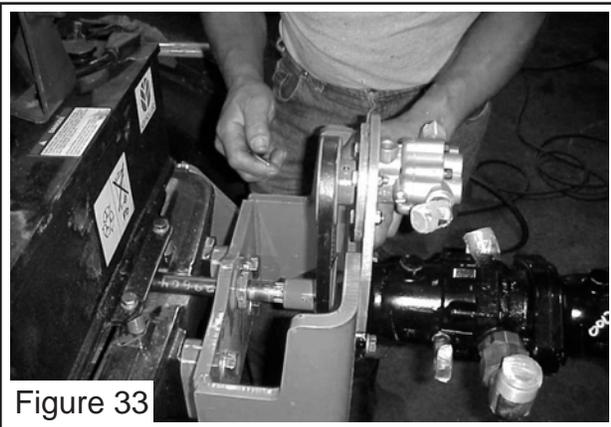

Figure 33
4. Align auxiliary pump drive pulley. With the auxiliary pump mount plate firmly tightened and the drive belt on the pulley, but not adjusted tight. Slide the pump drive pulley on the pump shaft until the upper pulley is aligned with the lower one. Once the pulleys are aligned tighten the retaining set screw in the upper pulley to secure it to the pump shaft. (See Figure 33)